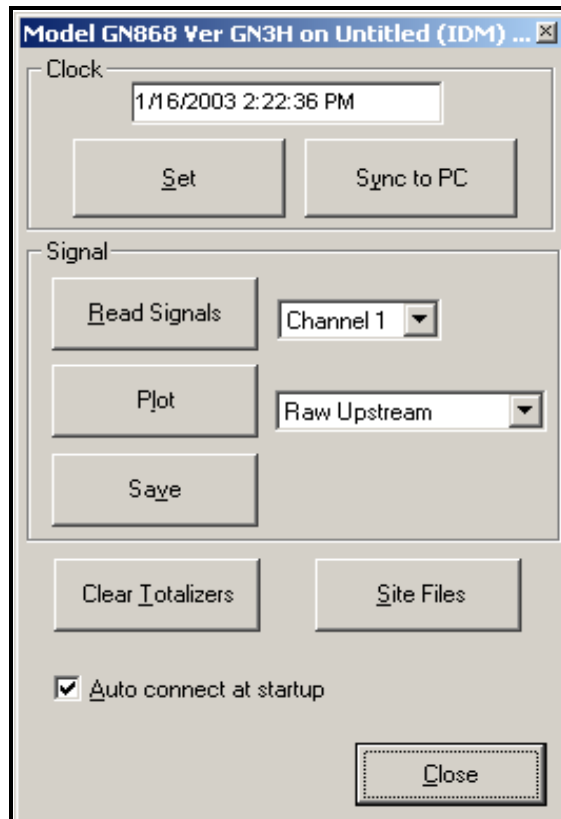

Figure 11: Active Signal Options in Properties Window
1. Click on the *Read Signals* button. (If the meter is a multi-channel instrument, open the Channel drop-down menu and click on the desired channel.) After a moment, the *Properties* window appears similar to Figure 11 below.